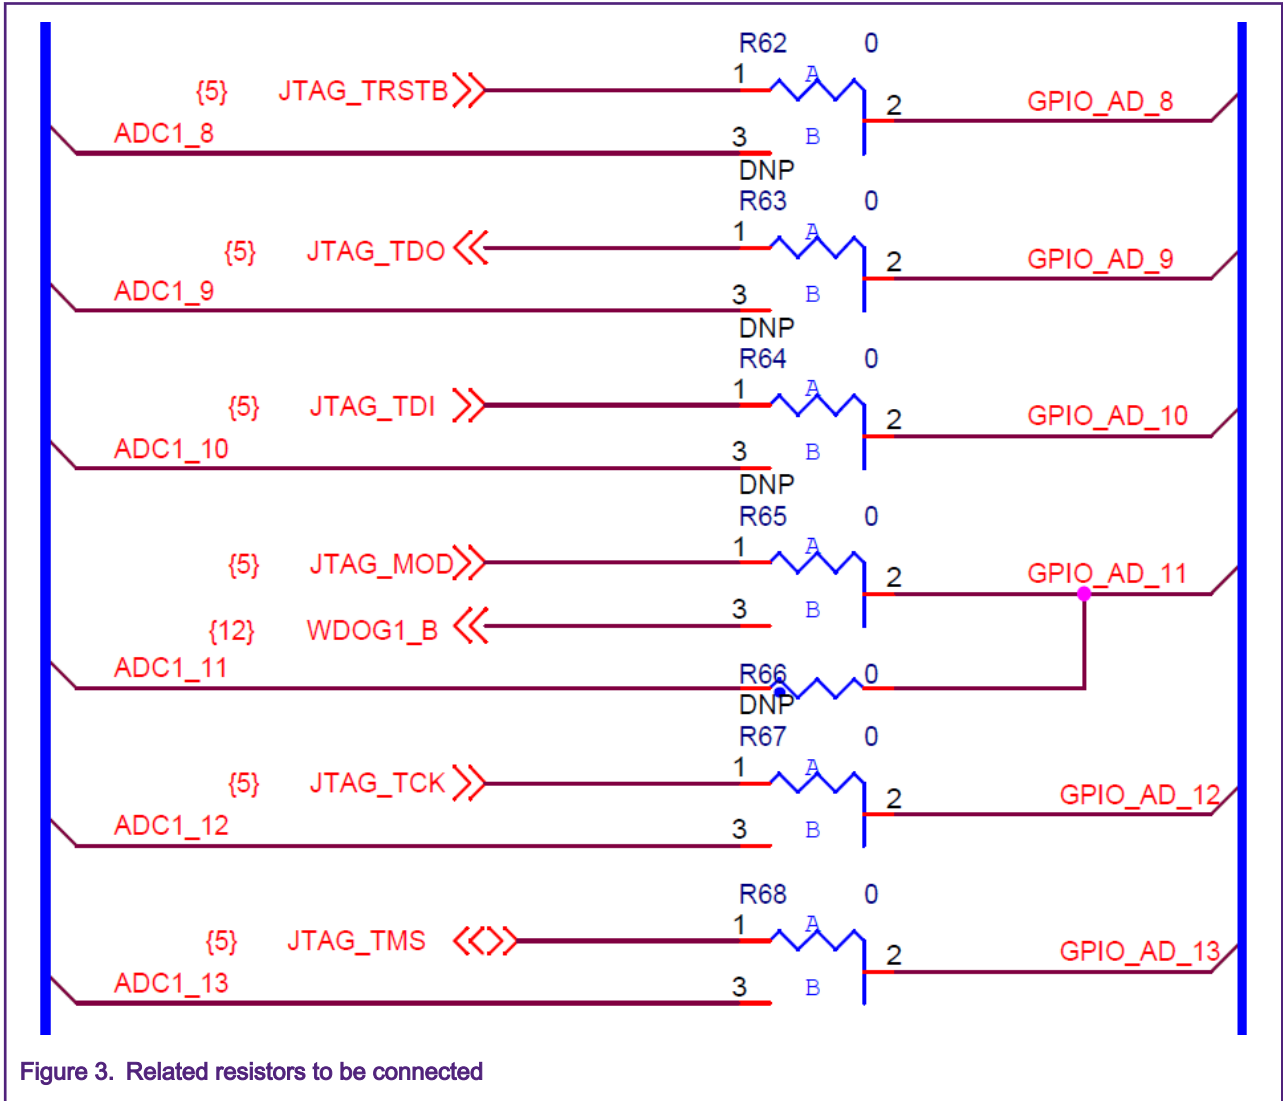

Figure 3. Related resistors to be connected
- Write `efuse` to i.MX RT1010, change the debugging mode to JTAG, and solder the related resistors: R62, R63, R64, R65, R67, as shown in Figure 3.